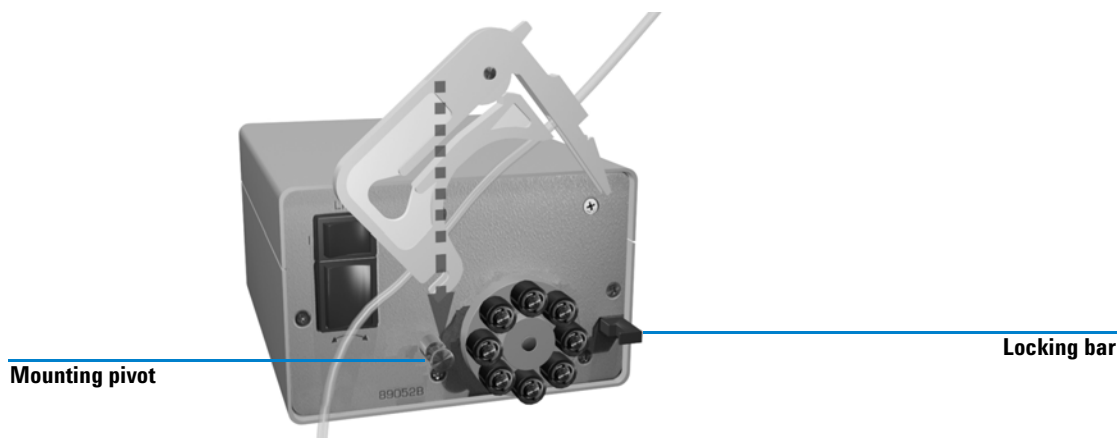

Figure 6 Replacing the Tubing Cassette
- 2 Move the pressure-control lever of the tubing cassette (see Figure 6) clockwise to the right-most position, that is, the lever is horizontal.